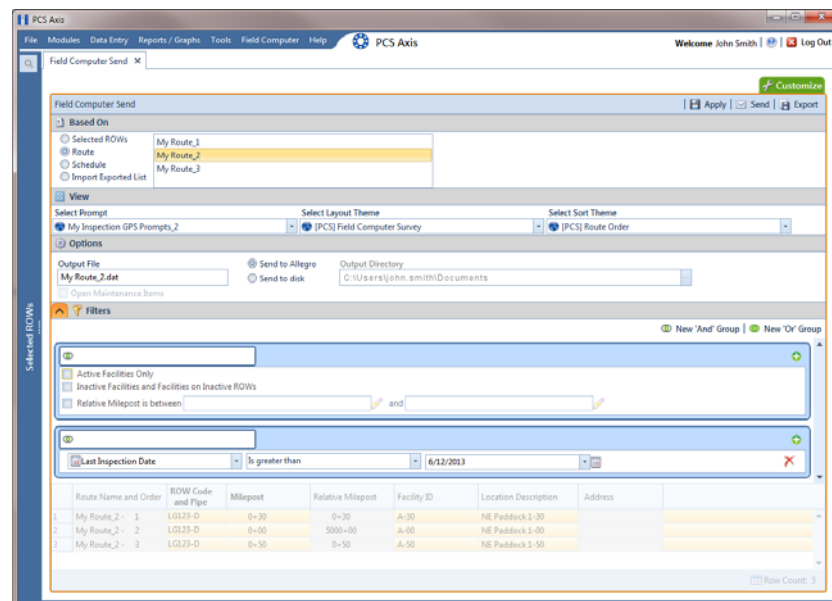

Figure 13-7. New 'And' Filter Group
- 12** If you want to add a new AND filter group, complete the following steps. With an AND filter group, PCS Axis includes a subset of records that meet *all* filter conditions defined for the filter group. Records are filtered in the grid and in the route sent to the Allegro (Figure 13-7).